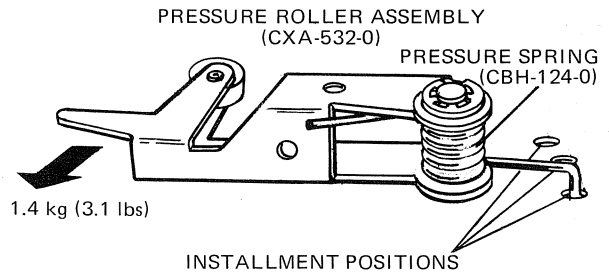

Fig. 11
1. Measure the end of the pressure roller with a tension gauge. (Fig. 11)